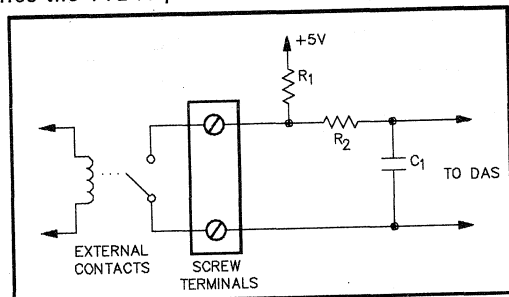

Figure 8.13. Contact Sensing and Wetting.
**Contact Sensing** -- When interfacing to relay or switch contacts, a "pull-up" current must be provided. The pull-up current converts the opening and closing of the contacts to TTL levels. Because all metal surfaces tend to oxidize with time, poor relay contacts can result. This oxidation can be cleaned away by passing a minimum current through the relay contacts. Both level generation and contact wetting can be accomplished by connecting resistors between the input lines and the +5V power supply. This can be implemented on the signal termination panel as shown in Figure 8.13. A value of 250 ohms for  $R_1$  will provide 20mA of wetting current, which is usually enough to keep most contacts free of oxide build-up.  $R_2$  and  $C_1$  function as a debounce filter to reduce erroneous inputs due to the mechanical bouncing of the contacts. When the switch is open, the system sees +5V. When the switch is closed, the input is 0V. This satisfies the TTL requirements of the system.